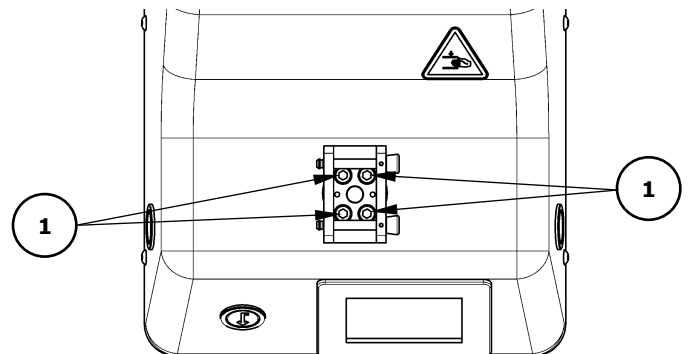

Figure 7.3
1. Loosen the screws (1). See Figure 7.3.
3. Tighten the screws (1).